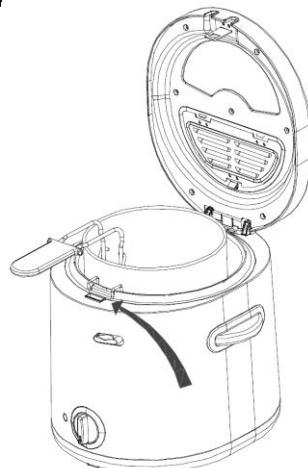

Fig.3
- The drainage position for the frying basket - See fig. 3
15. When frying is complete, open the lid and hook the basket onto the front lip of the oil tank (fig. 3) to permit the oil to drain back into the oil tank for a short while.